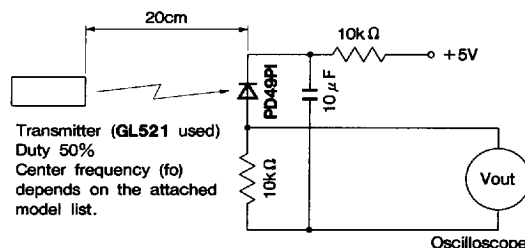
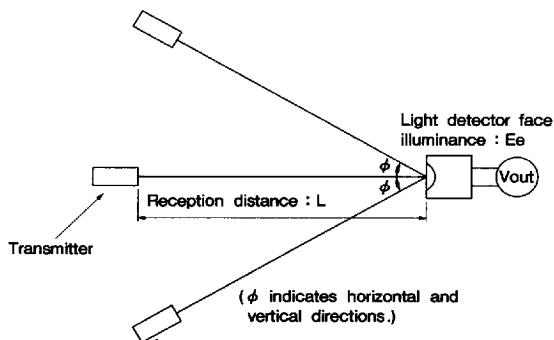

Fig. 1. Transmitter
Fig. 2. Standard optical system
*3 The burst wave as shown in the following figure shall be transmitted by the transmitter shown in Fig. 1.
Using the transmitter shown in Fig. 1, the output signal of the light detecting unit is good enough to meet the following items in the standard optical system in Fig. 2.
When $L=0.2$ to 8m , ${}^*E_e < 1\text{ lx}$ and $\phi = 0^\circ$ in Fig. 2, the output signal shall meet the electrical characteristics in the attached list.
When $L = 0.2$ to 6m , ${}^*E_e < 10\text{ lx}$ and $\phi \leq 30^\circ$ in Fig. 2, the output signal shall meet the electrical characteristics in the attached list.
When $L=0.2$ to 4m , ${}^*E_e \leq 300\text{ lx}$ and $\phi = 0^\circ$ in Fig. 2, the output signal shall meet the electrical characteristics in the attached list.